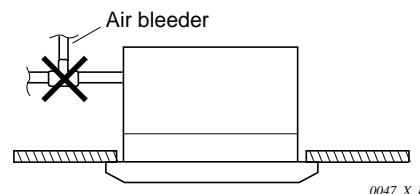

Fig. 3-40
- Do not install air bleeding tubes, as this may cause water to spray from the drain tube outlet. (Fig. 3-40)